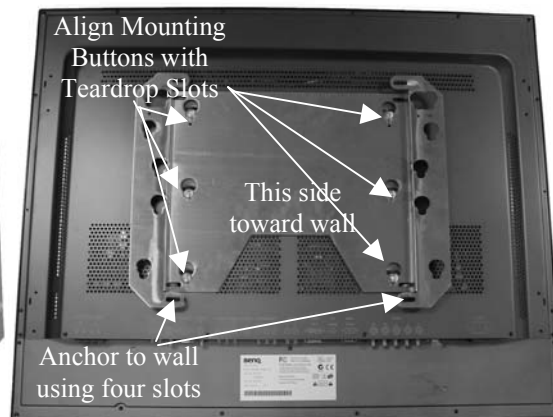

Figure 5
6. With the aid of another person, lift the plasma display up to the mount, align the mounting buttons on the plasma with the teardrop slots in the mount, and set the plasma into place (see Figure 5).